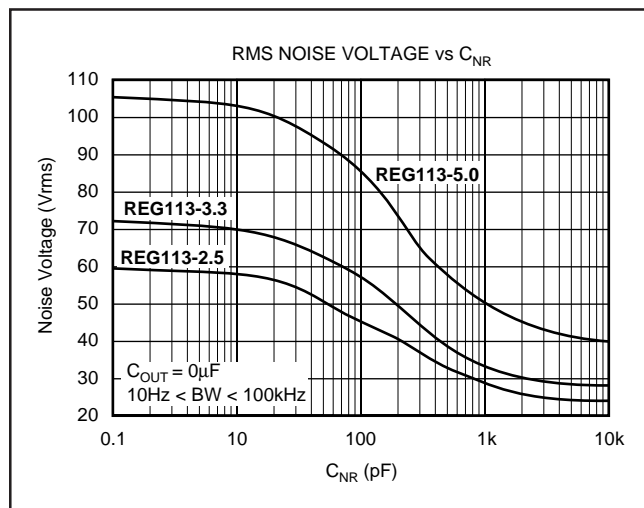
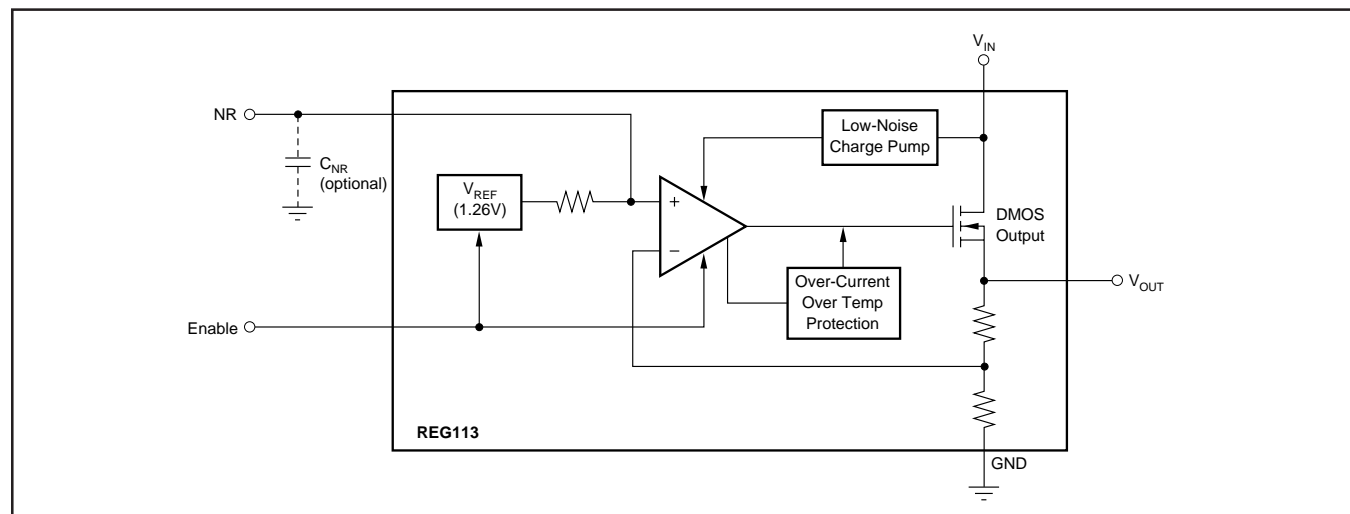

FIGURE 4. Output Noise versus Noise Reduction Capacitor.
FIGURE 3. Block Diagram.
Connecting a capacitor,  $C_{NR}$ , from the Noise Reduction (NR) pin to ground (as shown in Figure 3) forms a low-pass filter for the voltage reference. For  $C_{NR} = 10\text{nF}$ , the total noise in the 10Hz to 100kHz bandwidth is reduced by approximately a factor of 2.8 for  $V_{\text{OUT}} = 3.3\text{V}$ . This noise reduction effect is shown in Figure 4, and as *RMS Noise Voltage vs  $C_{NR}$*  in the Typical Characteristics section.